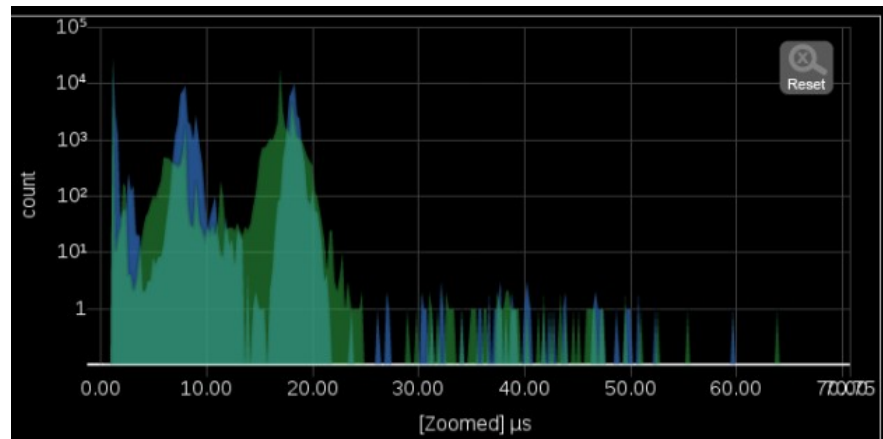

Figure 163: Zooming in on the PIT Histogram graph
- **Pinch and zoom control:** Use the pinch-out gesture on the graph to zoom in. After using the zoom in gesture, the text **Zoomed** will be displayed on the x axis of the graph. (See Figure 163.)